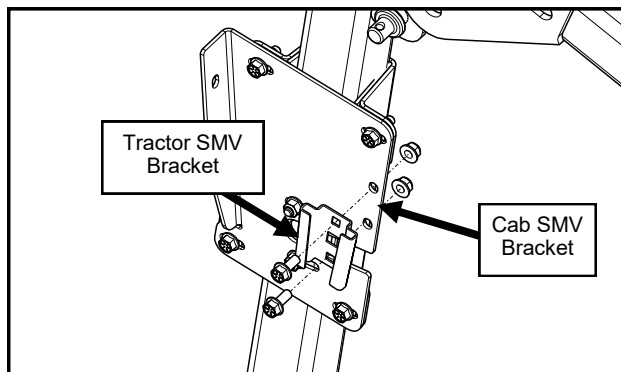

Fig. 2.3 (SMV Brackets)
- 2.3 NON-BACKHOE TRACTORS:** Install the tractor SMV bracket removed in step 1 to the cab bracket with new hardware provided. See fig. 2.3.